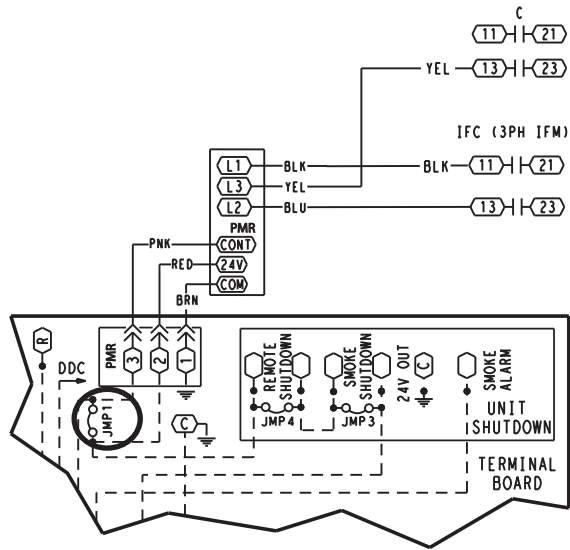

Fig. 5 - Wiring Diagram
On the indoor fan contactor (IFC), connect the black wire to terminal “11” and the blue wire to terminal “13.” On the compressor contactor (C), (C1) or (C2). connect the yellow wire to terminal “13.” (See Fig. 5.)